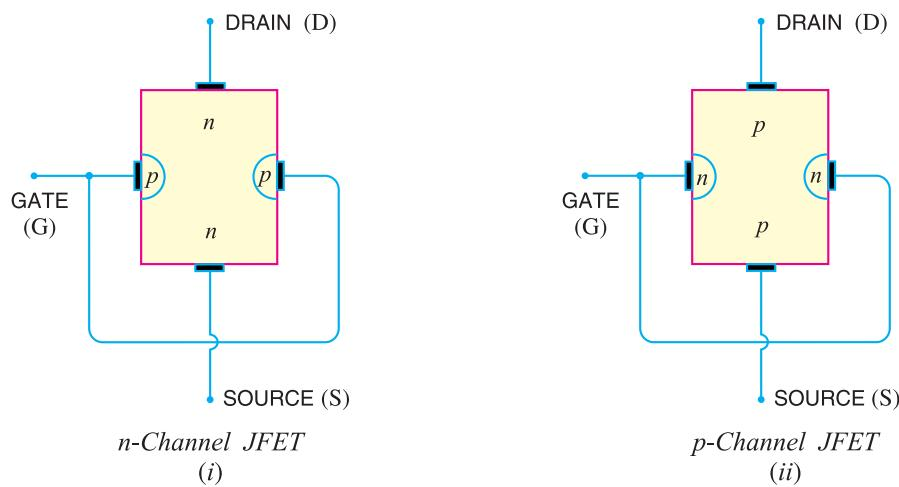

Fig. 19.1
**Constructional details.** A *JFET* consists of a *p*-type or *n*-type silicon bar containing two *pn* junctions at the sides as shown in Fig. 19.1. The bar forms the conducting channel for the charge carriers. If the bar is of *n*-type, it is called *n-channel JFET* as shown in Fig. 19.1 (i) and if the bar is of *p*-type, it is called a *p-channel JFET* as shown in Fig. 19.1 (ii). The two *pn* junctions forming diodes are connected \*internally and a common terminal called *gate* is taken out. Other terminals are *source* and *drain* taken out from the bar as shown. Thus a *JFET* has essentially three terminals *viz.*, *gate* (*G*), *source* (*S*) and *drain* (*D*).
\* It would seem from Fig. 19.1 that there are three doped material regions. However, this is not the case. The gate material *surrounds* the channel in the same manner as a belt surrounding your waist.